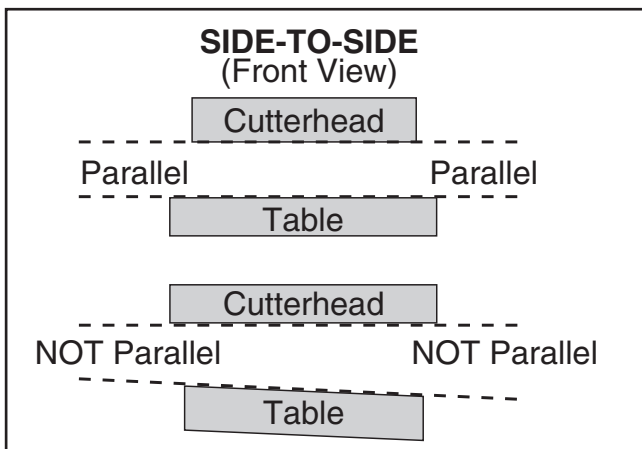

Figure 76. Side-to-side parallelism of table and cutterhead.
Table parallelism is critical to the operation of the planer. As such, it is essential that the planer table is parallel with the cutterhead (within 0.002") from side-to-side, as illustrated in **Figure 76**.
- If table is not parallel to cutterhead side-to-side (**Figure 76**), loosen (2) lock nuts on right or left side of cylinder liner. Adjust set screws to raise or lower table so it is parallel to cutterhead.